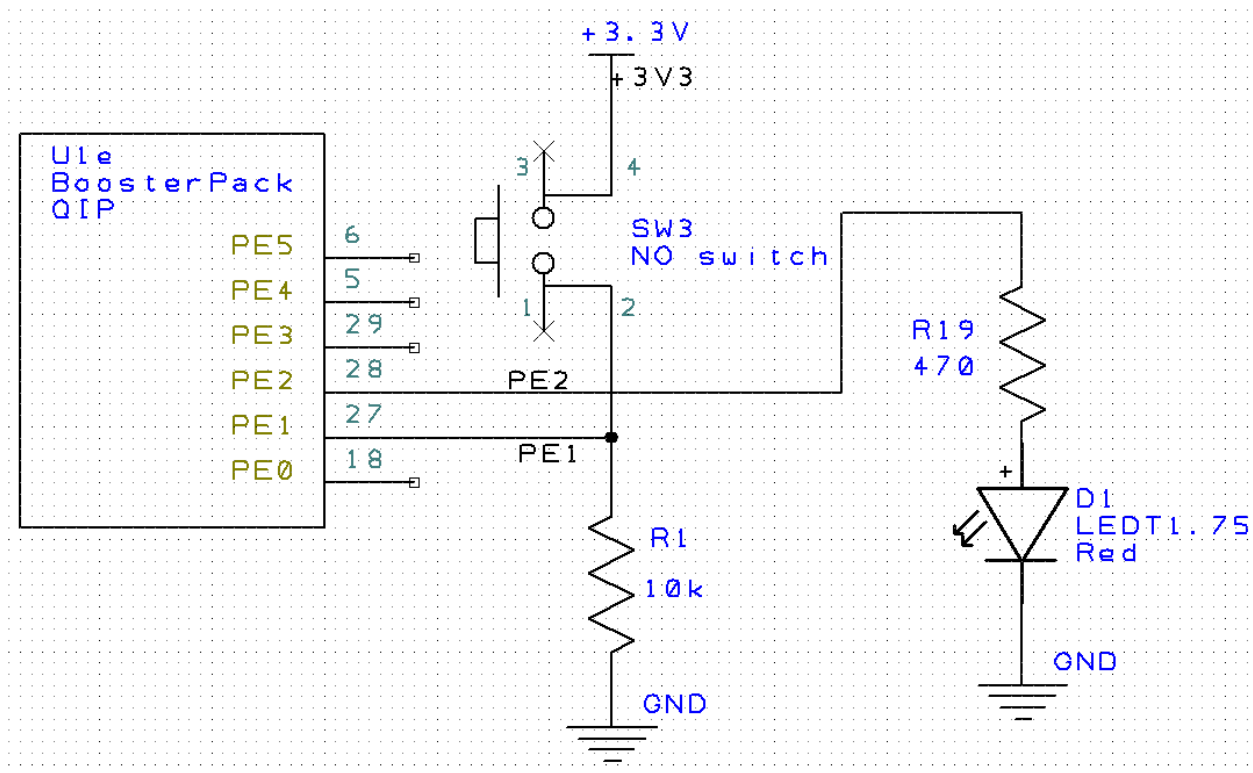

Figure 3.8. PCB Artist drawing showing Port E, 3.3V power, a 10kΩ resistor, a switch, an LED, a 470Ω resistor, and ground.
After the software has been debugged on the simulator, you will build the hardware on the real board. Please get your design checked by the TA before you apply power (plug in the USB cable). *Do not place or remove wires on the protoboard while the power is on.* One possible circuit diagram for this lab is given in Figure 3.8. Figure 3.8 is what we mean in EE319K when we say “draw a circuit diagram”.
Next, you can connect the input voltage to **PE1** and use the debugger to observe the input pin to verify the proper operation of the switch interface. You will have to single step through the code that initializes Port E, and PE1. You then execute the **Peripherals->TEaS Port E** command. As you single step you should see the actual input as controlled by the switch you have interfaced, see Figure 3.8.
Table 3.2. LED measurements (assuming the 470  $\Omega$  resistor is labeled R19 in Figure 3.8).
2. Circuit diagram (hand-drawn or optionally using PCB Artist), like figure 3.8